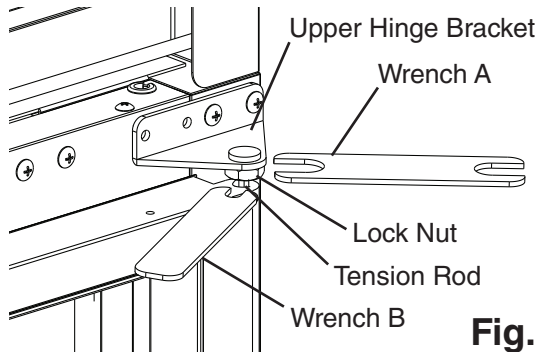

Fig. 29
- 5) Grip wrench B in a new position on the tension rod and hold (prepare for tension pressure), then using wrench A, loosen the lock nut again. See Fig. 29.